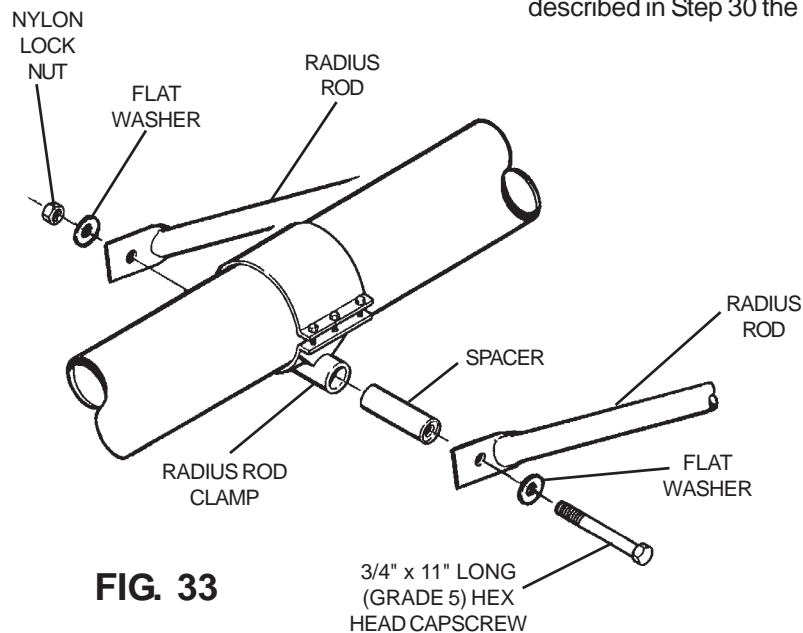

FIG. 33
28. Insert the pivot pipe spacer into the pipe on the radius rod clamp. Then insert a 3/4" x 11" long (grade 5) hex head capscrew through a flat washer, one radius rod, the spacer and then the other radius rod and another flat washer and a nylon locknut. See Fig. 33.